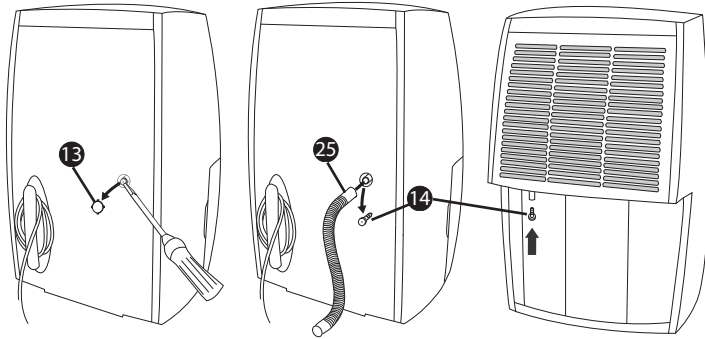

Fig. 2
- ◆ Then insert the plug **14** into the outlet aperture for the water tank (see Figure 2).